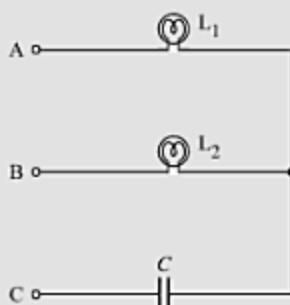

Fig. 12.26 Circuit for determining the phase sequence.
**Ans.:** We connect two 100-W lamps,  $L_1$  and  $L_2$ , and a capacitor  $C$  to the three lines (*A, B* and *C*) of the 3-phase system, as shown in Fig. 12.26. When the supply is switched on, we shall always find one of the lamps brighter than the other. Then the phase sequence is in the order: bright-lamp, dim-lamp, capacitor. For instance, if lamp  $L_2$  is brighter than the lamp  $L_1$  in Fig. 12.26, the phase sequence is *B A C*.